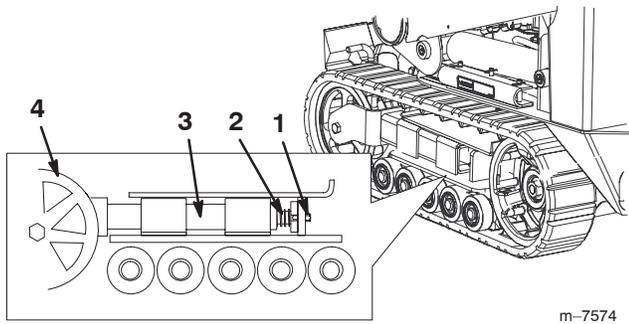

Figure 45
- Remove the locking bolt, spacer, and nut (Fig. 45).
- Align the closest notch in the tension screw to the locking bolt hole and secure the screw with the locking bolt, spacer, and nut (Fig. 45).
- Using a 1/2 inch drive socket, release the drive tension by turning the tensioning screw clockwise (Fig. 45 and 46).